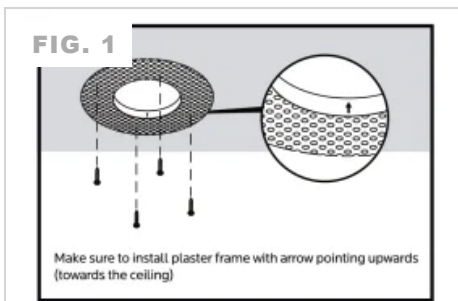
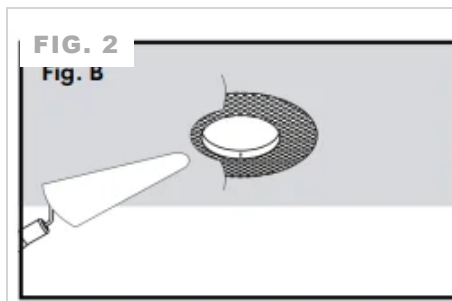

Fig. 1 · Standard plaster frame in ceiling cut-out
Fig. 2 · Trimless flange installation
- 04 For Trimless Flange installation, align the inside edge of the trimless flange (zero clearance plaster frame to drywall hole) and screw. (FIG. 1) (FIG. 2)